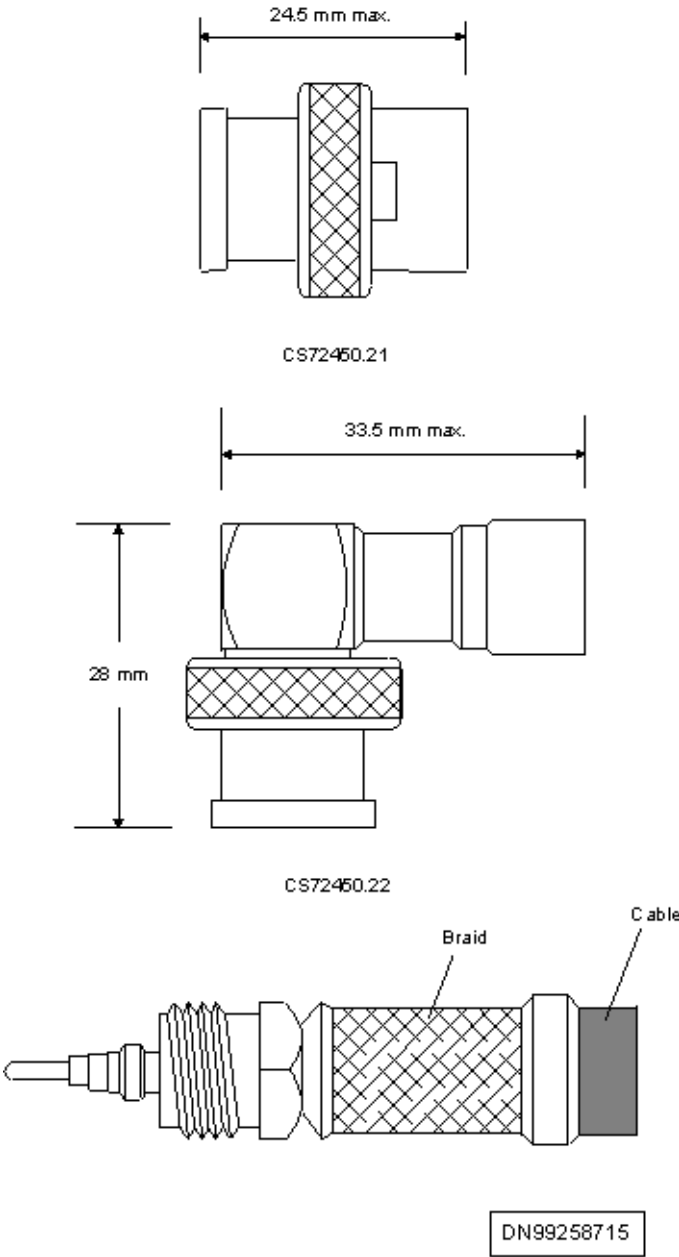

Figure 2. TNC connectors
- Figure 2. TNC connectors **19**